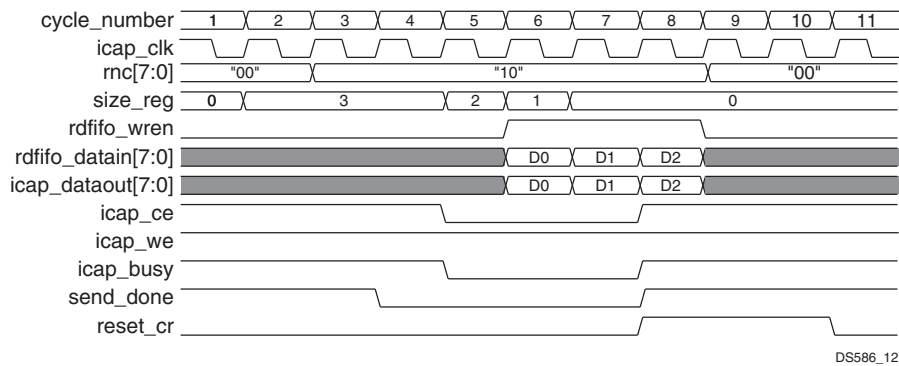
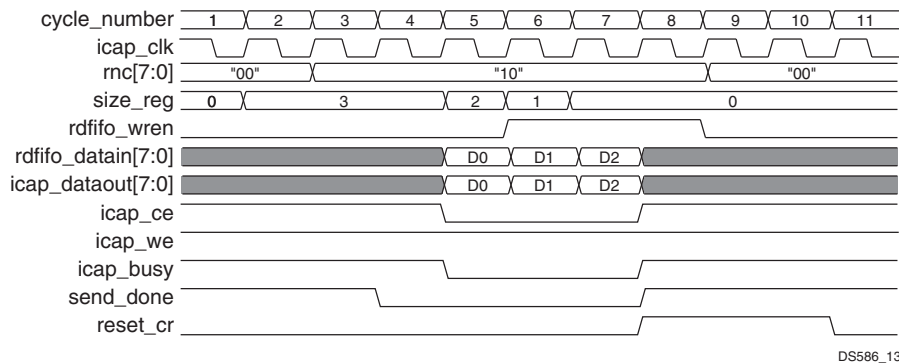
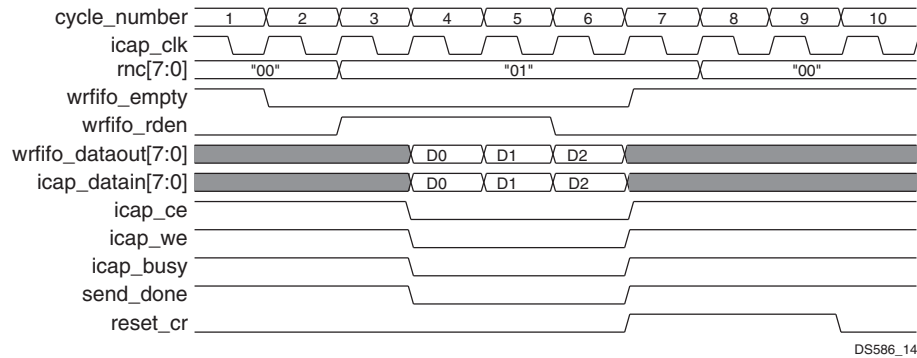

Figure 12: Read Cycle for Virtex-6 Devices
Figure 13: Read Cycle for Spartan-6 Devices
Figure 14: Write Cycle
- Write in to the Control Register \(CR\) to initiate the read or write of bitstream. The CR register determines the direction of the data transfer. Writing "0x00000001" in to the Control Register \(CR\) initiates the write configuration. Writing "0x00000002" in to the Control Register \(CR\) initiates the read. This is shown as `rnrc[7:0]` in Figure 12, Figure 13 and Figure 14.
- Write in to the Control Register \(CR\) to initiate the read or write of bitstream. The CR register determines the direction of the data transfer. Writing "0x00000001" in to the Control Register \(CR\) initiates the configuration. Writing "0x00000002" into the Control Register \(CR\) initiates the read. This is shown as `rnrc[7:0]` in Figure 12, Figure 13 and Figure 14.
The timing diagrams shown in Figure 12, Figure 13, and Figure 14 show the read and write cycles of AXI HWICAP core for the Virtex-6 and Spartan-6 FPGAs.